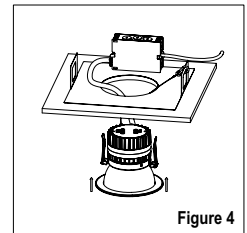

Figure 4
6. Bend the spring clips upward so they are in an upright and insert downlight into hole in the ceiling/housing. (See Fig. 4)